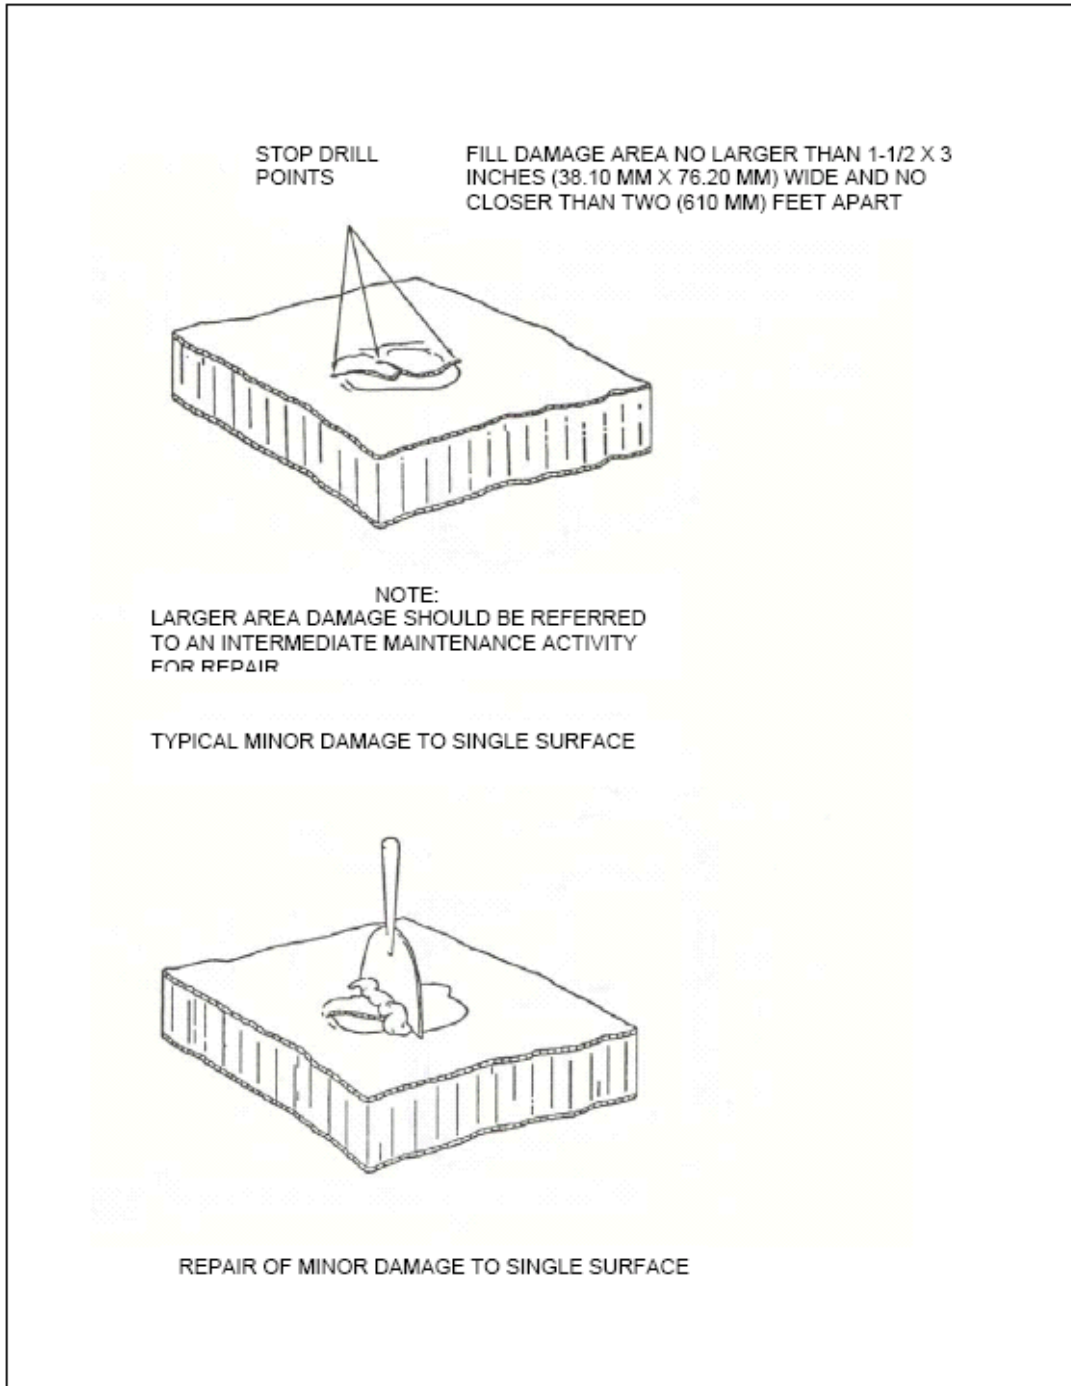

Figure 4-59. Typical repair procedure for face skin damage less than 1-1/2 x 3 inches (38.10 x 76.20 mm)
The following procedures should be used to repair skin fractures with an area of less than 1-1/2 x 3 inches (38.10 x 76.20 mm) (see Figure 4-59). Proceed as follows:
- Pour paste into damaged area. Do not overfill (See Figure 4-59).